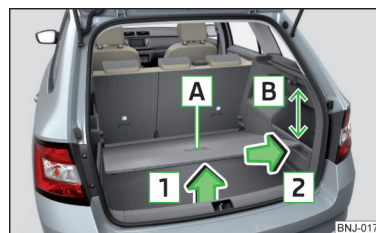

Fig. 103
- Lift the variable loading floor at the handle **A** in the direction of arrow **1** until its rear area is about 15 cm **B** below the edge of the foldable cover » Fig. 103.
- Grasp the variable loading floor at handle **A** » Fig. 103.
When removing or inserting the variable loading floor, a distance of 15 cm **B** » Fig. 103 underneath the edge of the foldable cover must be adhered to, there is a risk of damaging the boot lid seal.